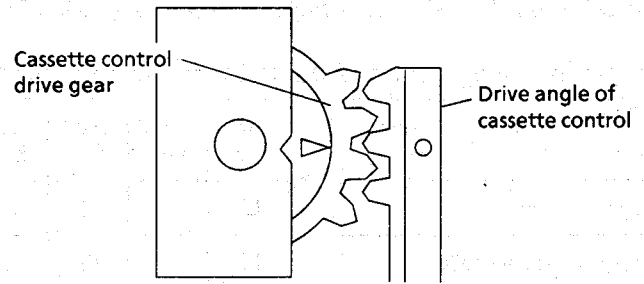

Figure 4-2.
1. Before installation of the cassette housing control assembly, make a short-circuit between TP5001 (or jumper pin 241) and TP5002 (or jumper pin 242), both located at the left on your side on the main PWB, with a 22 ohm resistor. Plug in the power cord. The cassette control drive gear starts and stops just when a tally mark appears in the mechanism chassis window. Align this tally mark with the cassette control drive angle's mark, as shown in Fig. 4-2, to position the cassette control on the mechanism chassis.